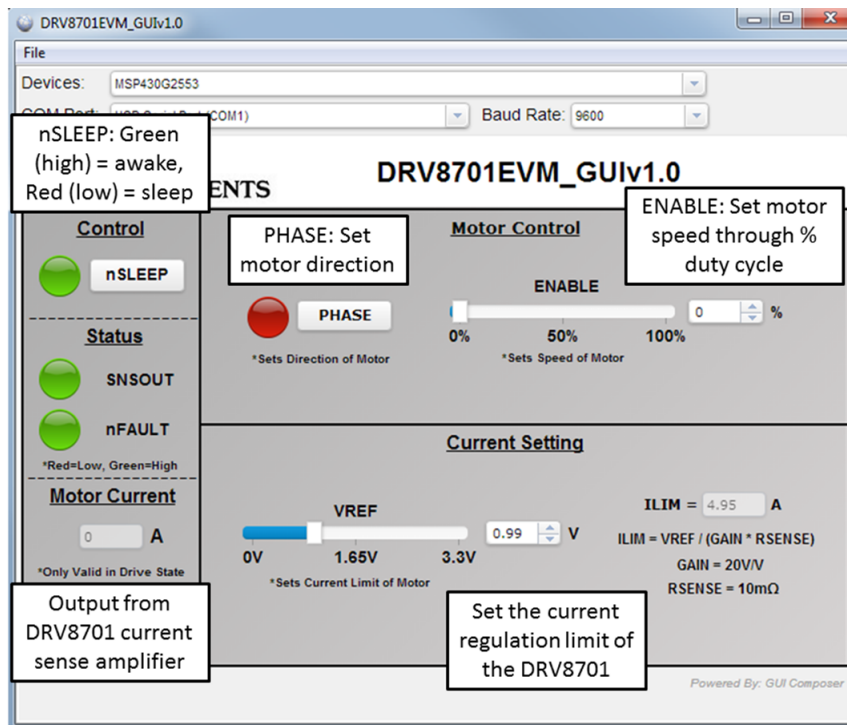

Figure 7. GUI Overview
Step 5: Figure 7 provides an overview of the GUI.